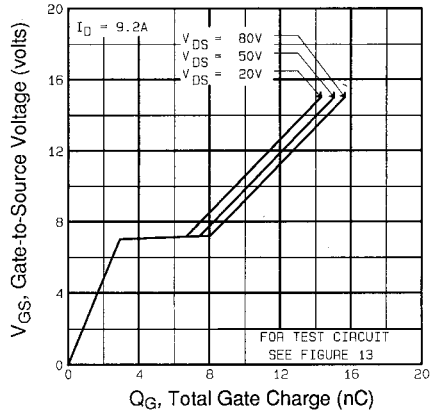

Fig 6. Typical Gate Charge Vs. Gate-to-Source Voltage
| Q _{gd} | Gate-to-Drain ("Miller") Charge | — | — | 7.7 | | V _{GS} =10V See Fig. 6 and 13 ④ |